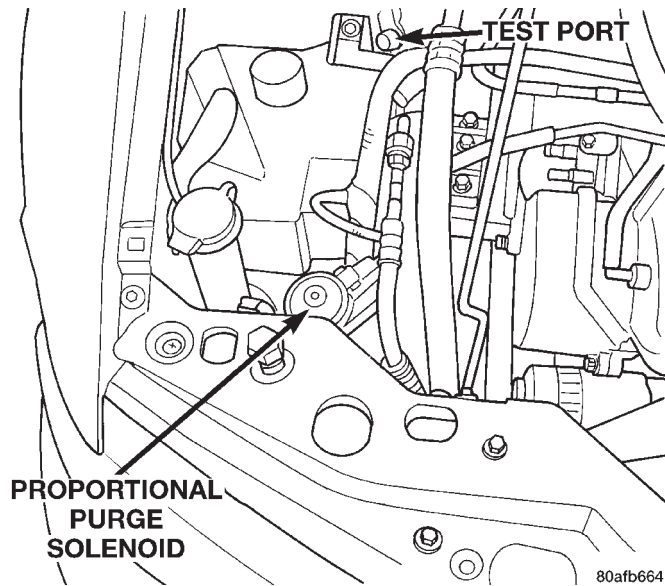

Fig. 48 Proportional Purge Solenoid
(11) Inspect the electrical and hose connections at the proportional purge solenoid (Fig. 48).
(12) Check electrical connection to the radiator fan.
(13) Inspect system body grounds for loose or dirty connections. Refer to the Wiring Diagrams for ground locations.
(14) Inspect air cleaner filter element. Replace as necessary. Check air induction system for restrictions.